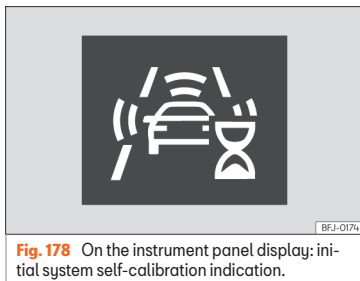

Fig. 178 On the instrument panel display: initial system self-calibration indication.
- In the first few instants of driving after switching on the ignition, due to the system's initial auto-calibration. During this period, a status icon »» **Fig. 178** is displayed.